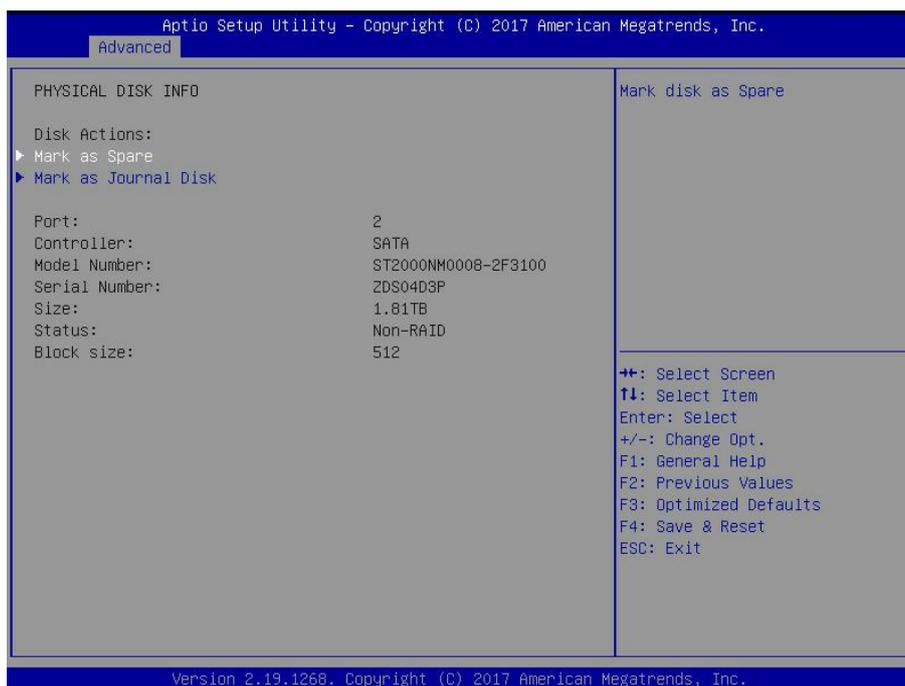

Fig.6.9
b) Enter the interface shown in Fig. 6.9, select "Mark as Spare" and press enter.